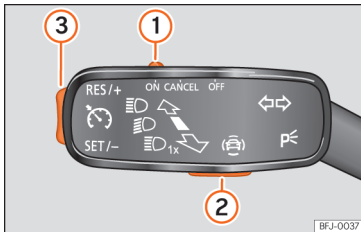

Fig. 252 On the left of the steering column: control and buttons to operate the speed limiter.
If you wish to temporarily switch off the speed limiter, e.g. to overtake, move control »» Fig. 252 ① of the turn signal lever into position **CANCEL** or the third lever into pressure point **CANCEL** or press button ② on any lever.